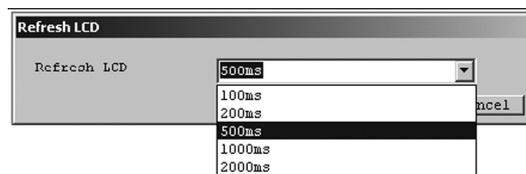

Fig.70
- ③ Click the triangle on the right side of "Refresh LCD" as shown in Fig. 70, and select the frequency to set from the drop-down list.